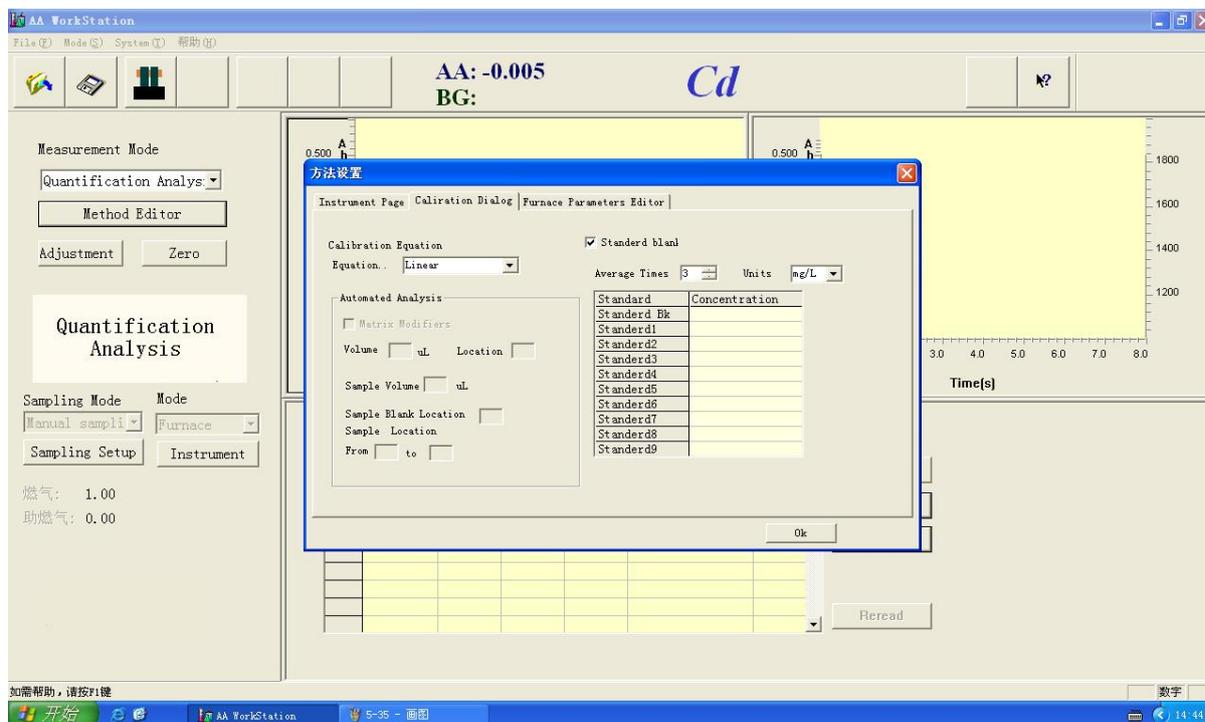

Figure 5-36
4. Press **【OK】**, open the "Calibration Dialog" window. figure 5-36